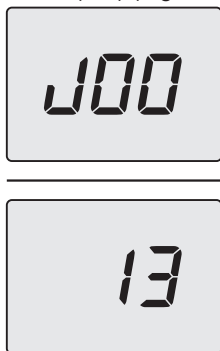

Fig. 2.2
decimal point, and the letter indicates the unit of measure (bar) (Fig. 2.2).
- Open the valves on the filling loop and, at the same time, check the heating circuit pressure on the display. The pressure must be between 1 bar and 1.5 bar (e.g. 1.3 bar in (Fig. 2.2).